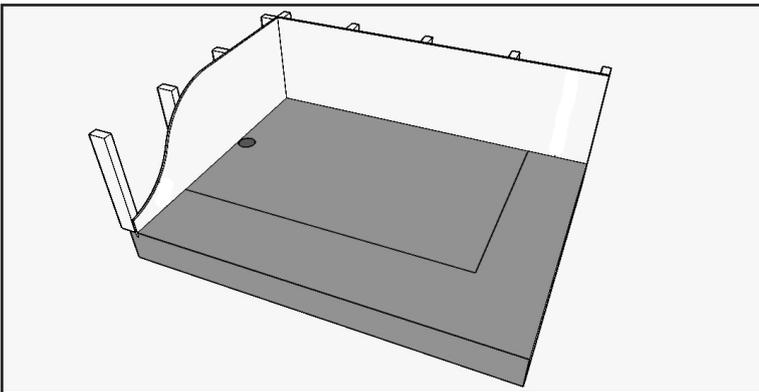

Fig. 1.1: Preparation of the floor substrate.
- b) Substrate preparation must be completed to meet or exceed New Zealand building code requirements. This includes filling any voids/gaps in the substrate or around floor flange setting (See Fig 1.1).